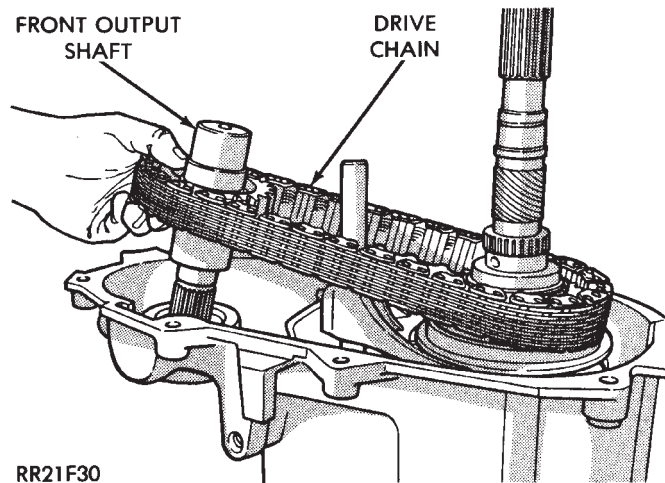

Fig. 62 Installing Drive Chain And Front Output Shaft
(7) Install chain on drive sprocket and start front shaft into front bearing at same time (Fig. 62).